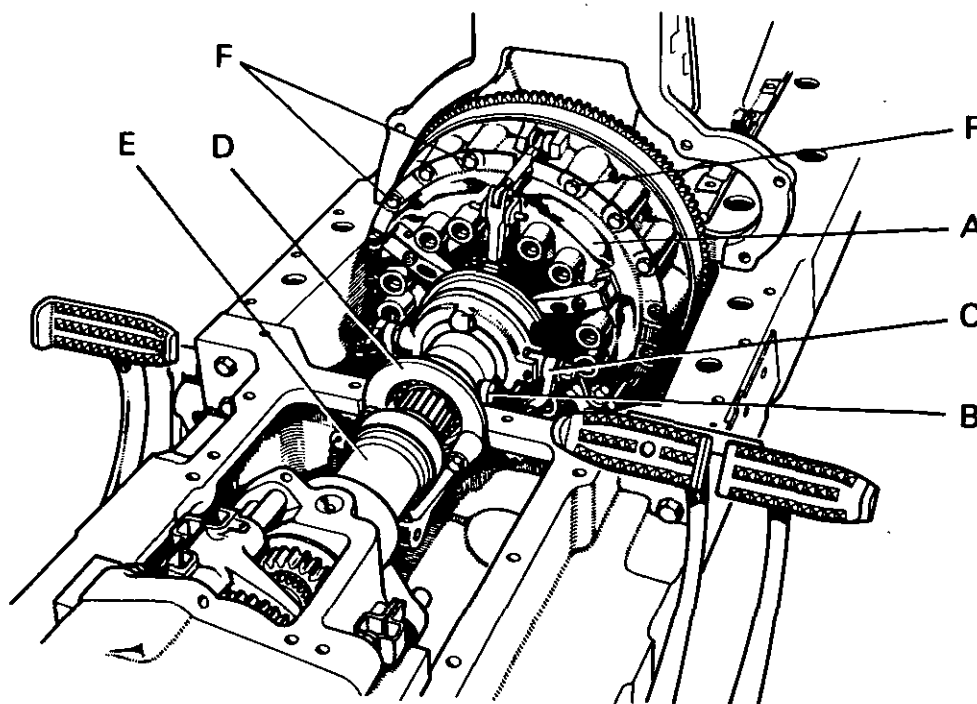

Figure 1. TRACTOR WITH GEARBOX COVER REMOVED
7. Remove tractor seat and support bracket. Remove gearbox cover to clutch housing bolts, lift out wedge and shims. Remove all gearbox cover bolts, including five through rear axle case, then lift off gearbox cover. (Fig. 1).